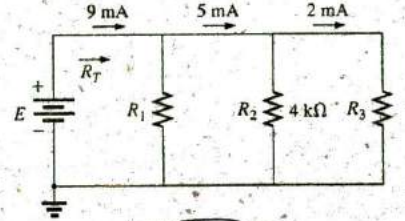

FIG. 6.96
27. Using the information provided in Fig. 6.96, find the branch resistances R_1 and R_3 , the total resistance R_T , and the voltage source E .